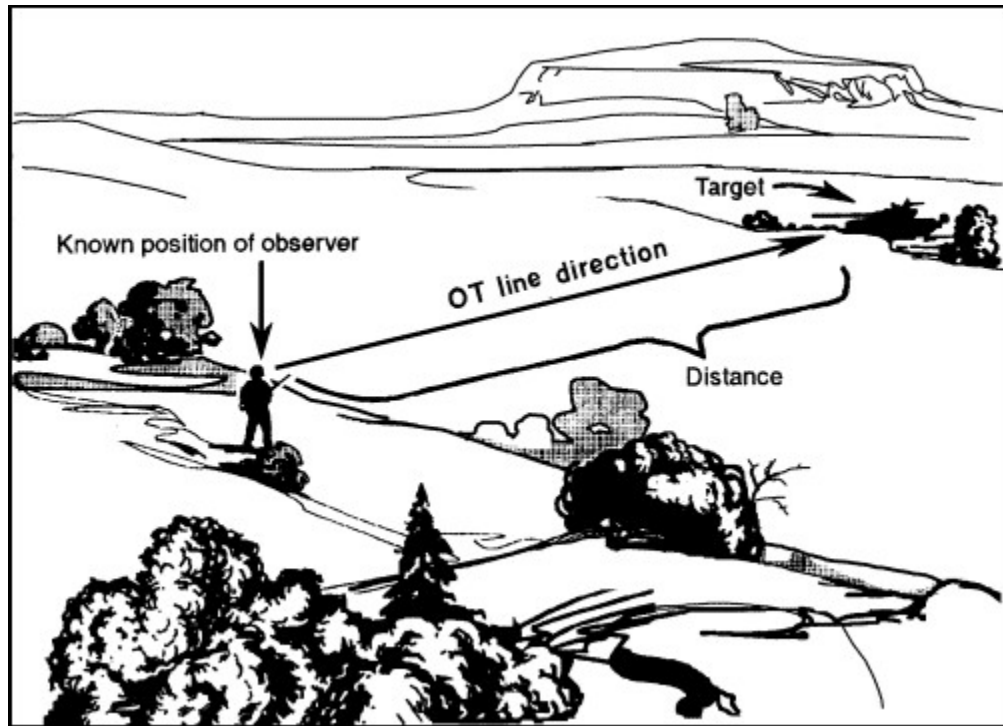

Figure 6-4. Polar plot method of target location
Polar plot method. This method requires that the observer and the FDC know the observer's exact location. The observer determines the direction (to the nearest 10 mils) of the observer-target (OT) line and the distance (to the nearest 100 meters) from his position to the target (see Figure 6-4).